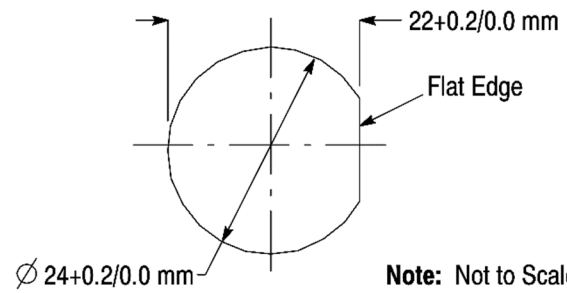

Figure 12
1. Cut the panel using the dimensions provided in Figure 12.